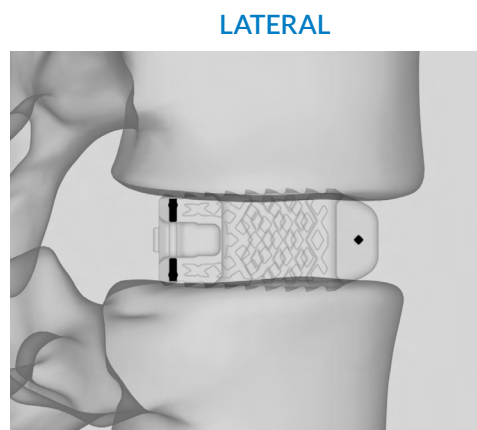

Figure 11B
A lateral view should show one (1) dot (per implant) at the anterior face of the implant and two (2) vertical pins at the posterior face of the implant (at the superior and inferior implant surfaces) (Figure 11B).